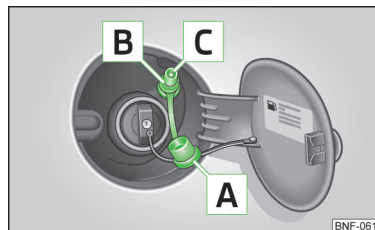

Fig. 93
- Remove the cap **A** » Fig. 93 from the gas filler tube **B**.
- Check that the sealing ring **C** » Fig. 93 has remained inserted in the gas filler tube.